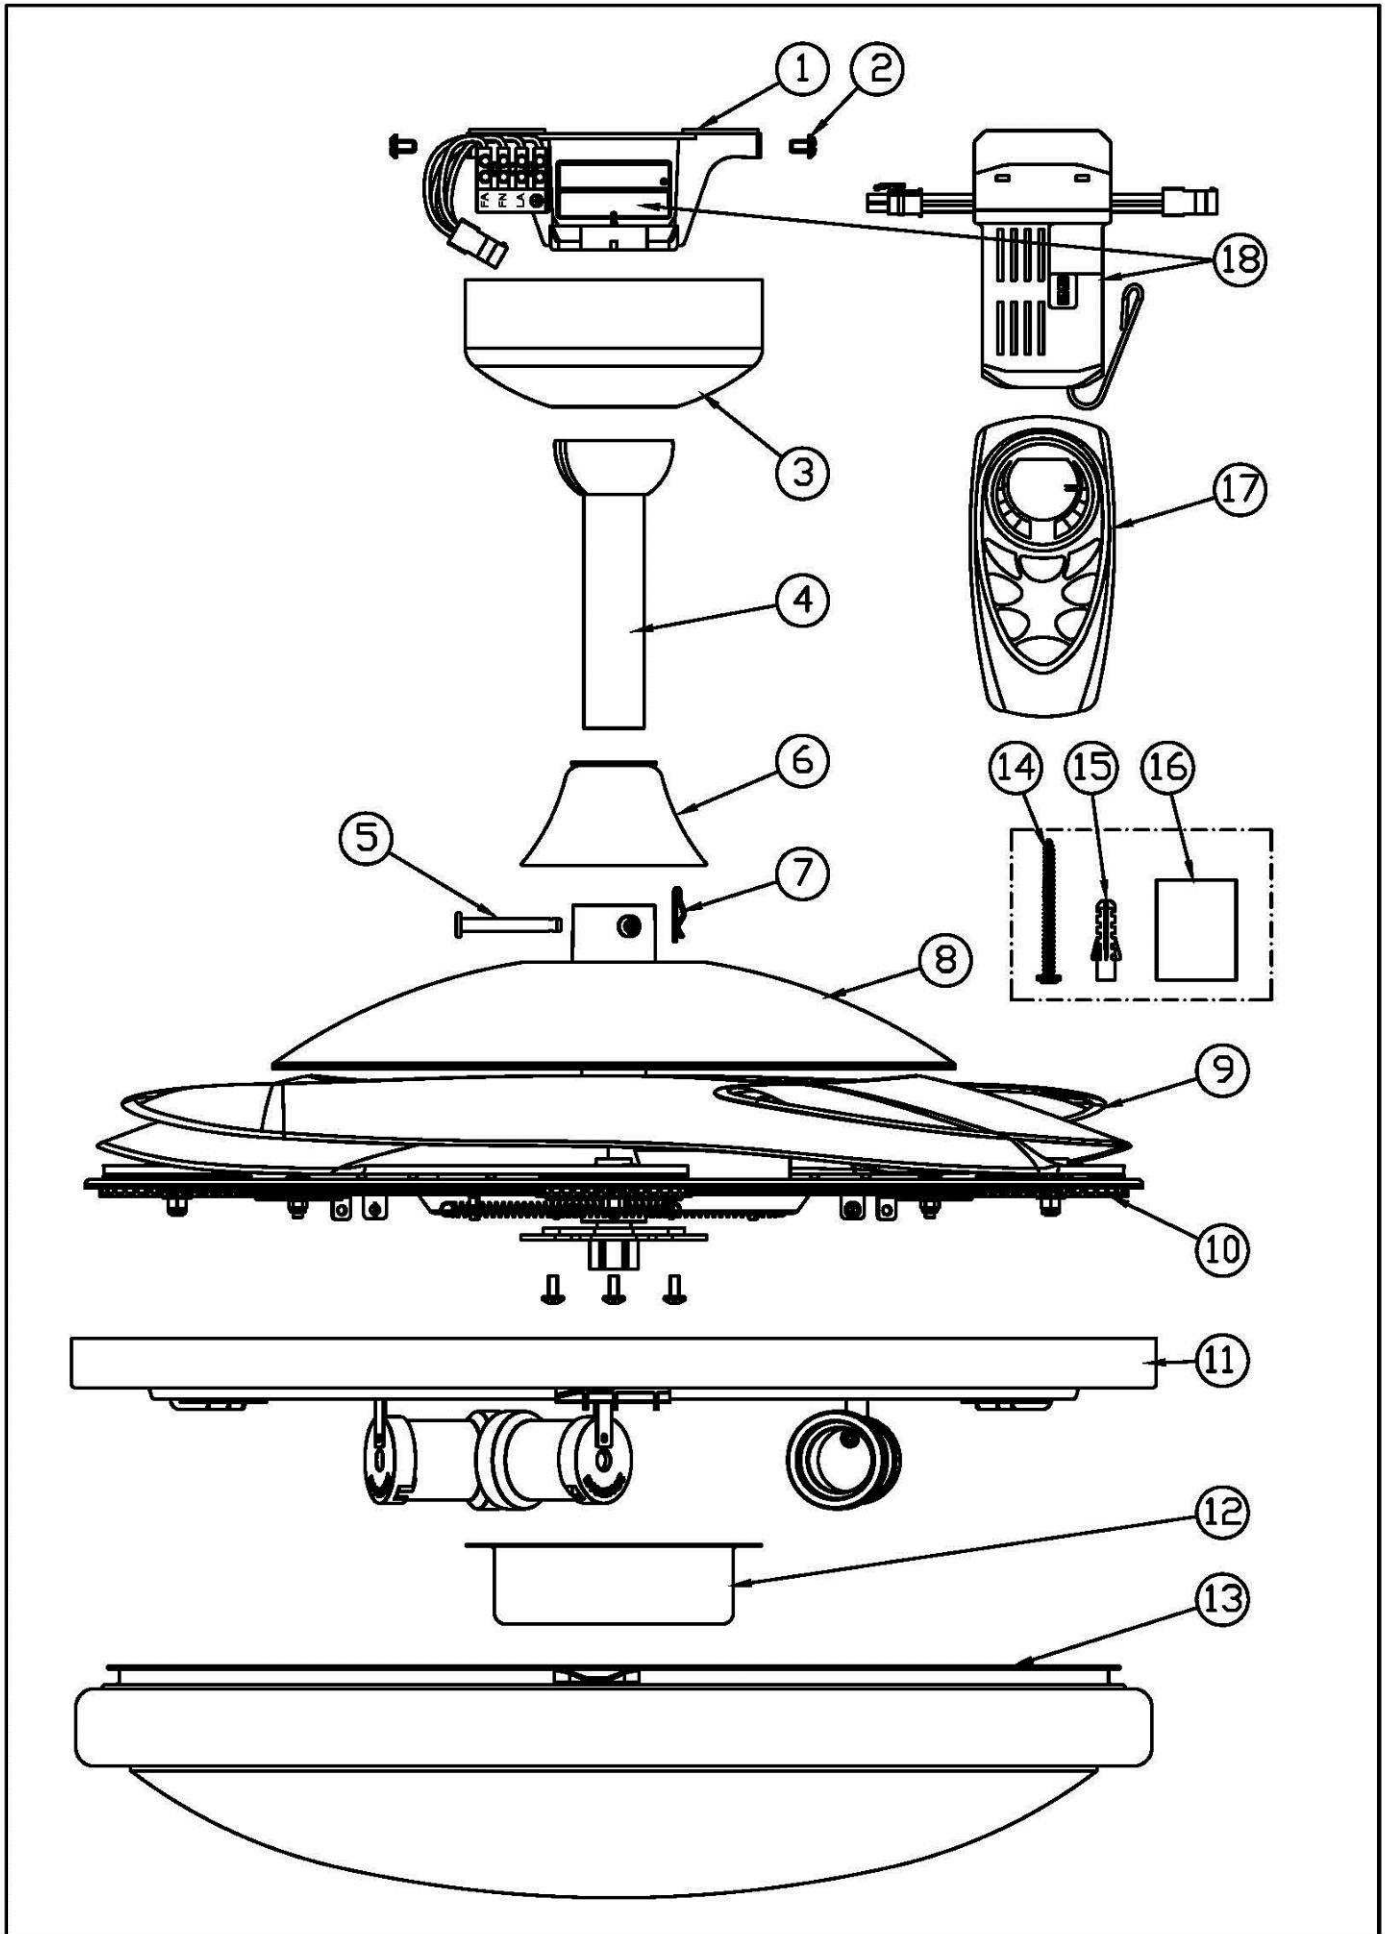

Figure 1.
Unpack the fan and carefully identify the parts. Please refer to FIGURE 1.
- 1) Remove ceiling canopy (No. 3 – Fig. 1) by loosening the 2 screws with slots.
- 1) Feed down rod through ceiling canopy (No.3– Fig. 1) and bolt and pin cover (No.6– Fig. 1).
- 3) Insert down rod (No.4– Fig. 1) to the top of the unit (No.8– Fig. 1), line up unit holes with down rod holes and insert bolt (No.5– Fig. 1). Then insert pin (No.7– Fig. 1) to end of bolt.